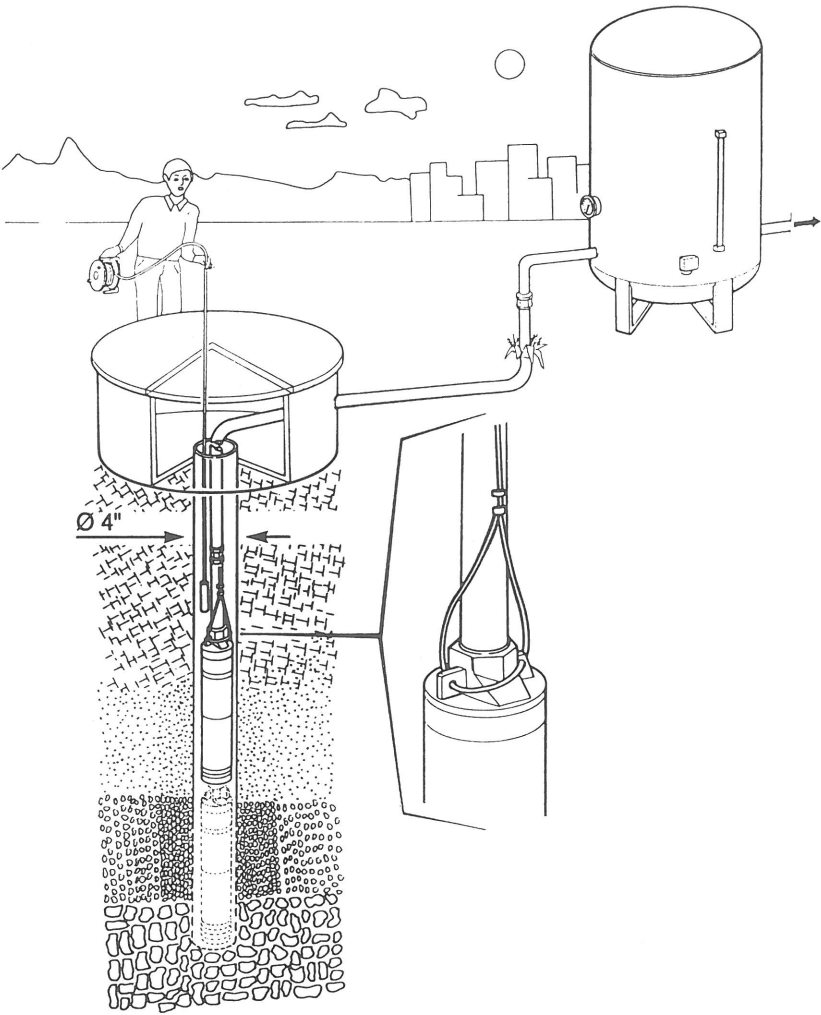

fig. 2 - Abb. 2 - fig. 2
15.2. SCHEMA INSTALLAZIONE (fig. 2)
15.2. DIAGRAM FOR INSTALLATION SPACES (fig. 2)
15.2. SCHEMA INSTALLATION (fig. 2)
15.2. INSTALLATIONS-SCHEMA (Abb. 2)
15.2. ESQUEMA INSTALACION (fig. 2)
- lift the electropump with a safety rope, fixed beforehand and connected to the holes (fig. 2);